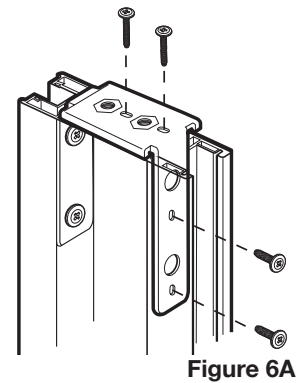

Figure 6A
Place 2 of the 4" screws into the 2 holes in the outside of the Stile channel. Make sure they are fully inserted. Slide a reinforcement clip (D) into the channel and over the screw shafts. See Figure 6A & 6B.
Insert two small screws into the oval holes on top of the U bracket and secure to the top of the stile. Take 2 small screws and secure into the oval hole in the outside of U bracket (G). This will be the outside of the stile. See Figure 6A